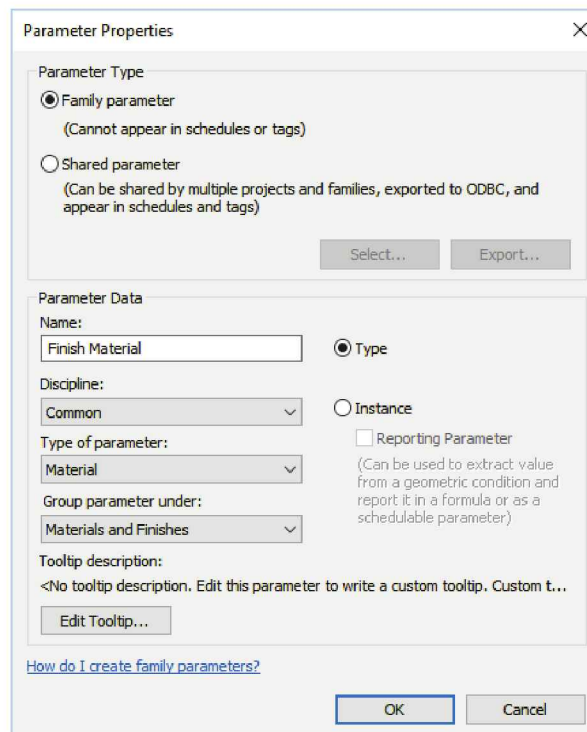

FIGURE 18-4.16 Creating a new parameter
31. Modify the *Parameter Properties* dialog as shown in Figure 18-4.16.